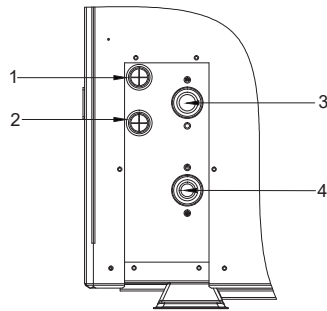

Figure 6-3: Wiring Holes for 4kW model
4. Insert the power cable through the High voltage wire slot incorporated into the body of the heat pump (located close to the Flow and return. Refer to Figures 6-3, 6-4, 6-5 and Table 6-3).